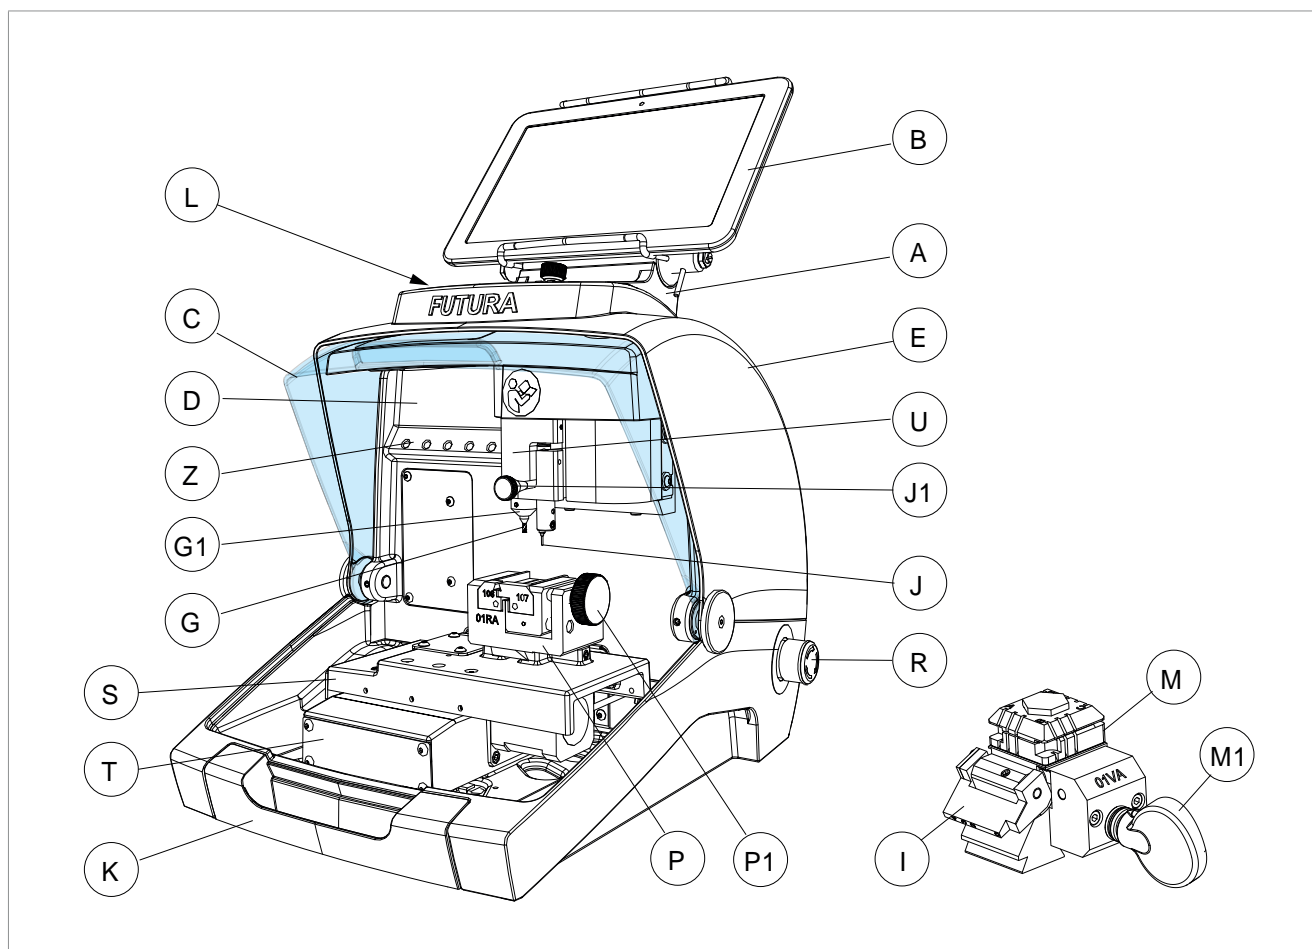

Fig. 6
Use the red emergency button (R) (Fig. 6), located on the right-hand side of the machine to stop the machine immediately in the event of serious malfunctioning or a hazard for the operator.